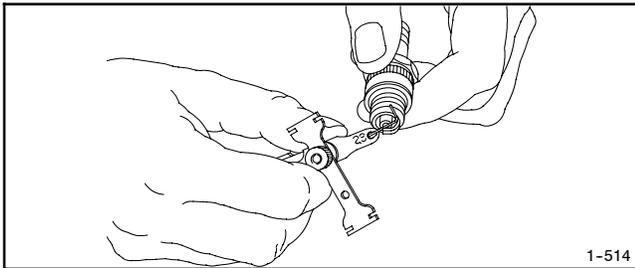
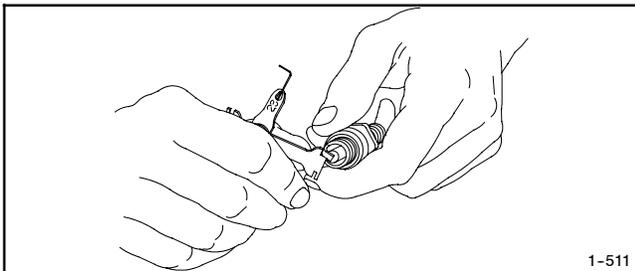

Figure 3-4 Checking the Spark Plug Gap
Figure 3-5 Adjusting the Spark Plug Gap
3. Check the spark plug gap using a wire feeler gauge. Adjust the gap to 0.76 mm (0.030 in.) by carefully bending the ground electrode. See Figure 3-4 and Figure 3-5.